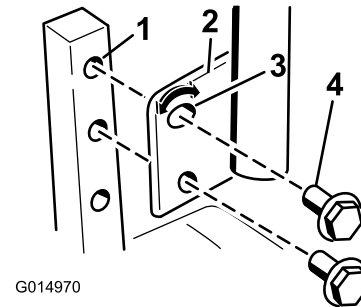

Figure 27
1. Remove the 2 bolts holding the control lever to the control arm shaft (Figure 27).
2. Move the control lever to the next set of holes. Secure the lever with the 2 bolts (Figure 27).
2. Loosen the lower bolt just enough to pivot the control lever fore or aft (Figure 27). Tighten both bolts to secure the control in the new position.